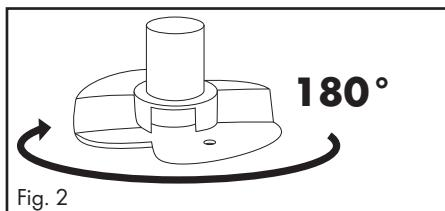
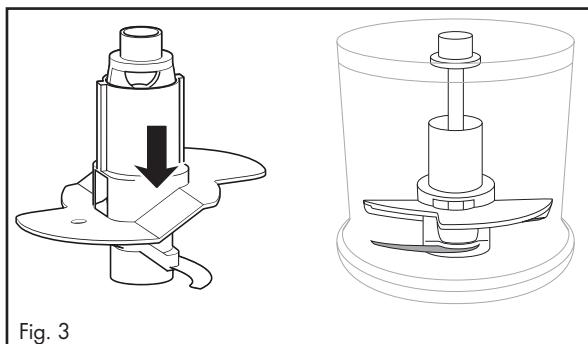

Fig. 2
Fig. 3
- For 200 ml of cream, turn the whisk attachment 10 horizontally by 180° (fig. 2), so that it is in contact with only one blade 7 and clicks into place (fig. 3). It then churns higher through the cream.